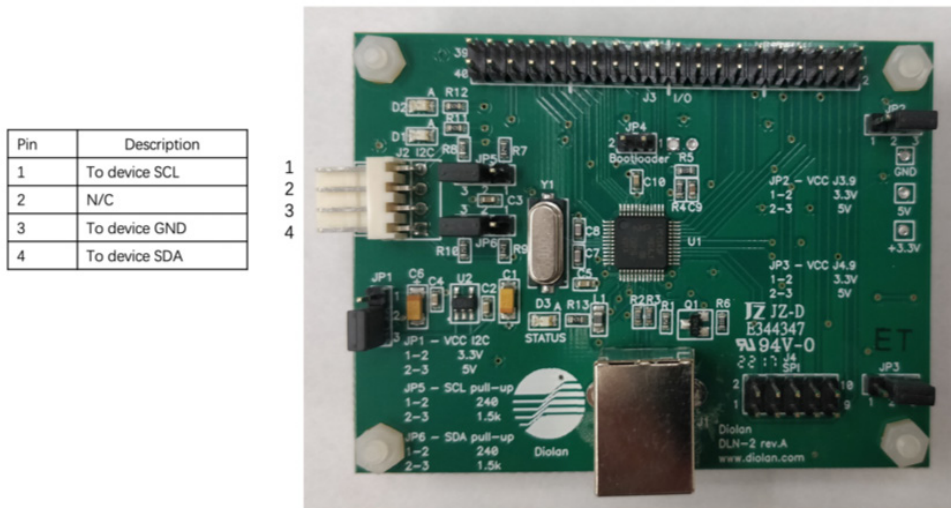

Figure 1
Step 1. Use jumper cables to connect the PMF sensor to the DLN-2 USB/I2C adapter board (Figure 1)